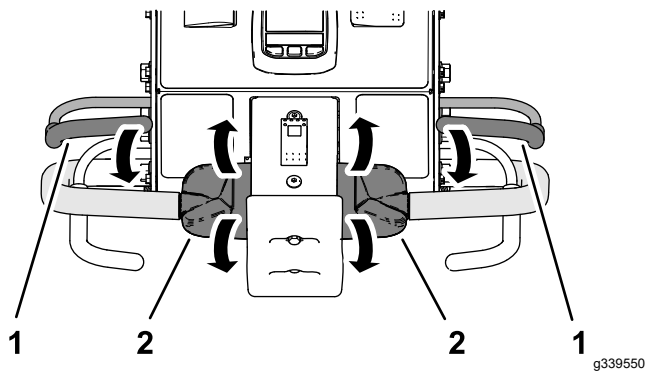

Figure 32
2. Hold either operator-presence bail to the handlebar and rotate the traction control (Figure 32) forward or rotate it backward, and start the engine.